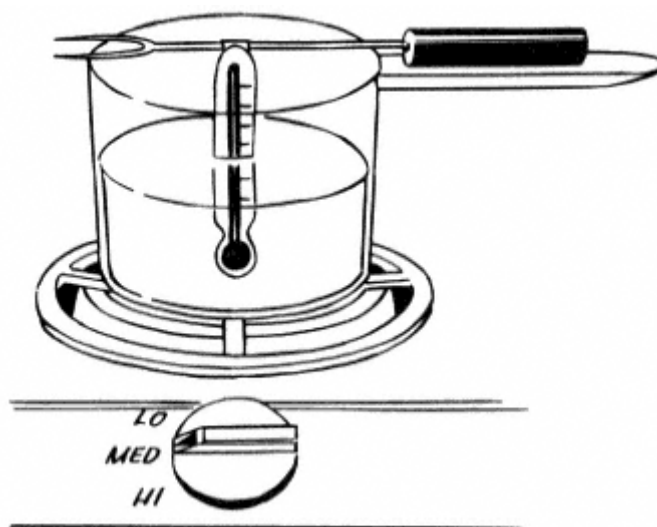

Figure 13.1
2. Place the fondue fork (or heavy wire) across the pot and clip the thermometer to the fork so that the bulb is suspended in the middle of the water (see Figure 13.1)